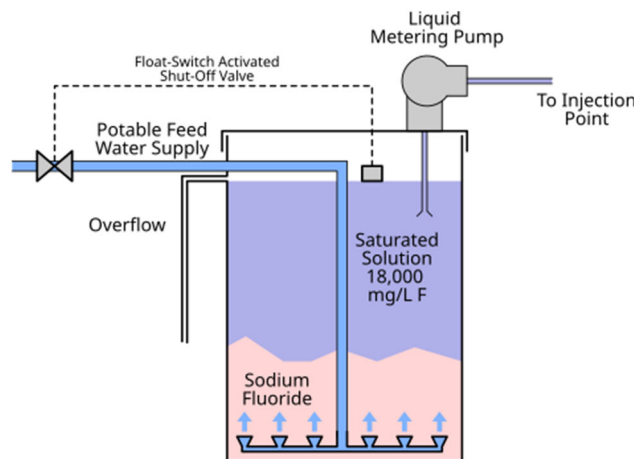

Figure 2-1 Single Tank Fluoride Saturator
The fluoride system at the Aiea-Halawa Shaft utilizes a single-tank design, combining the saturator and the feed tank functions. *Figure 2-1* shows a single-tank fluoride saturator as used at the Aiea-Halawa Shaft. Solid NaF is added manually to the tank, while a float switch on the tank controls the refilling of water via a solenoid valve on the potable water line. When the feed tank is full, the float switch closes the solenoid valve, stopping additional water flow to the saturator/feed tank. The saturator tank lid has space for mounting a single metering pump and is designed to work with a (b) (3) (B) metering pump.